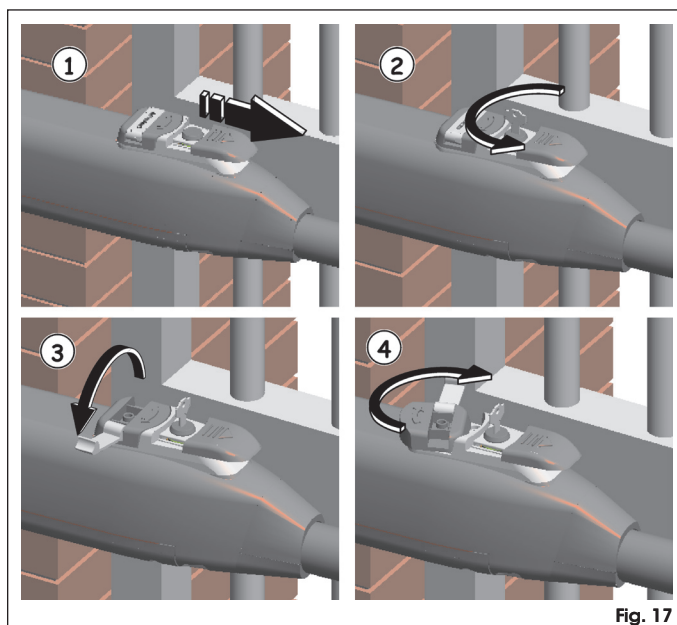

Fig. 17
2. Slide the protective cap, Fig. 17 - ①.
3. Insert the key and turn it 90°, Fig. 17 - ②.
4. Lift the control lever, Fig. 17 - ③.
5. To release the operator turn 180° the control lever to the direction indicated by the arrow on the release system, Fig. 17 - ④.